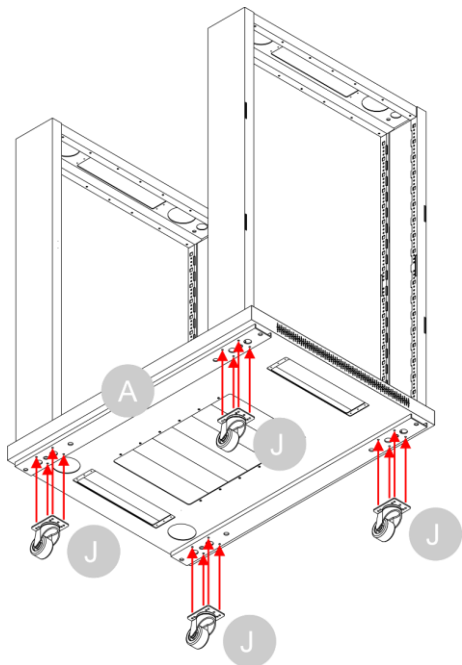

Fig. 21
- 05) Use a **hex key (R)** to attach the 4 **wheels (J)** to the bottom of the **bottom plate (A)** with 4 x 4 **screws (N)**, as shown in Fig. 21.